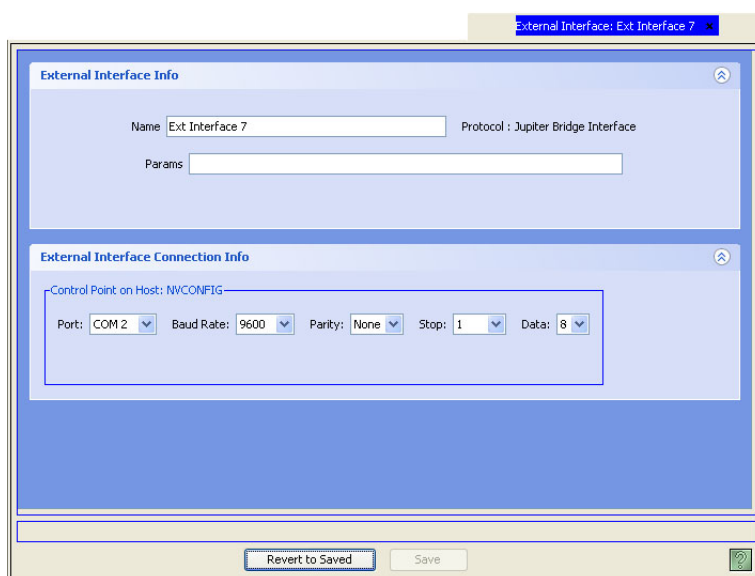

Figure 14-3. External Interface Page for Serial Protocol
- 4 Click Add & Edit to add the new external interface. The 'External Interface Details' page appears. Depending on whether an Ethernet or serial protocol was selected, different pages display, as shown in Figure 14-2 and Figure 14-3.